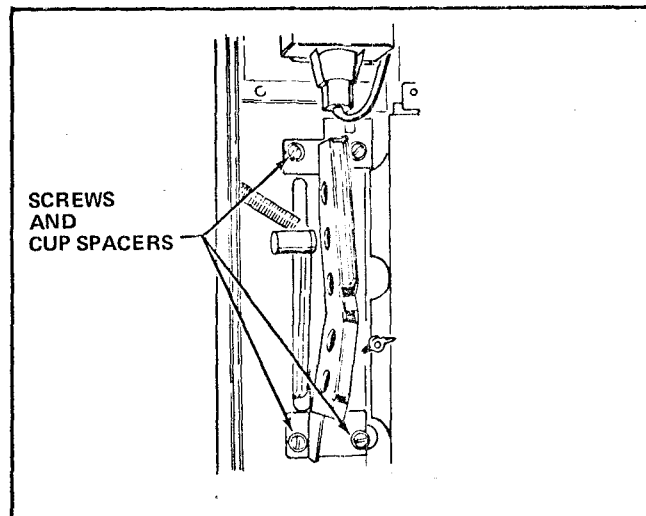

FIGURE 3
- b. Changer equipped - remove 3 screws and Cup Spacers. See Figure 3.